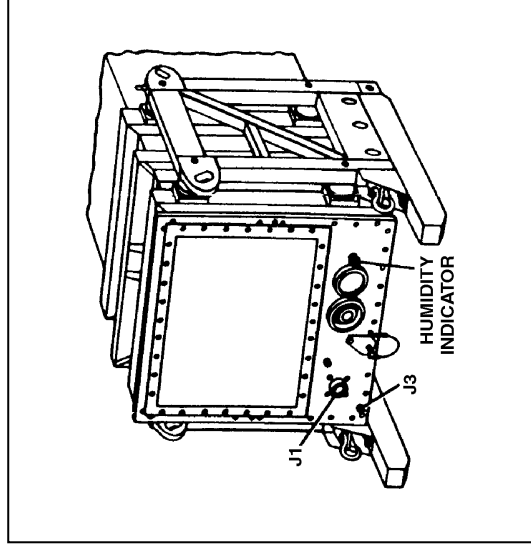

Figure B-2. GM Canister instrument panel
- Check that the grounding plug is connected to electrical connector J1 (Figure B-2).